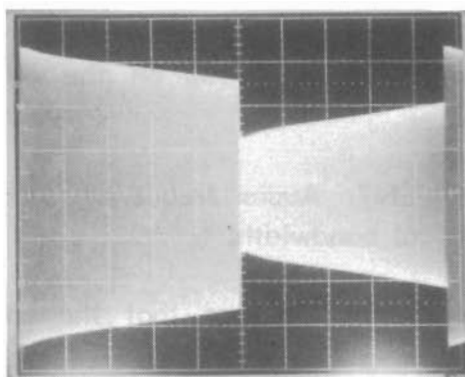
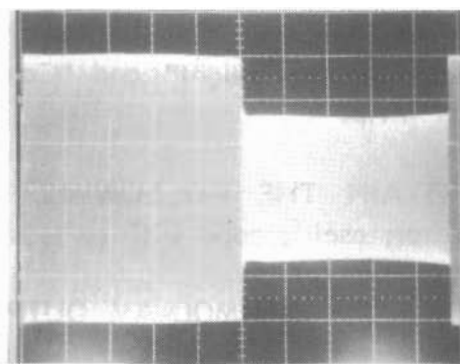

FIG. 3-1
FIG. 3-2
f) Turn on the carrier, and advance the OPTIMOD-AM OUTPUT ATTEN control until approximately 50% modulation is observed. Most transmitters will produce an RF envelope resembling fig. 3-1. Now adjust the LF TILT EQ trimmer control clockwise until the squarewave is as flat as possible. Fig. 3-2 shows a successful adjustment.